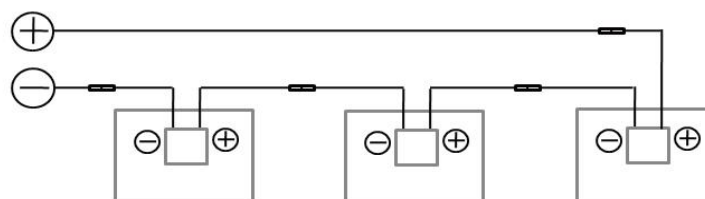
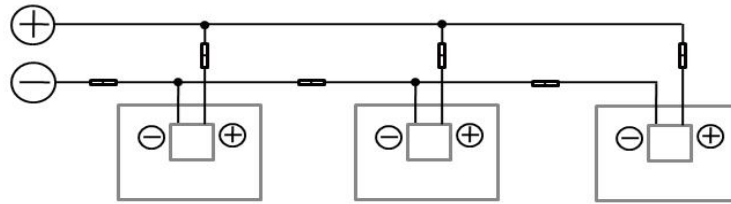
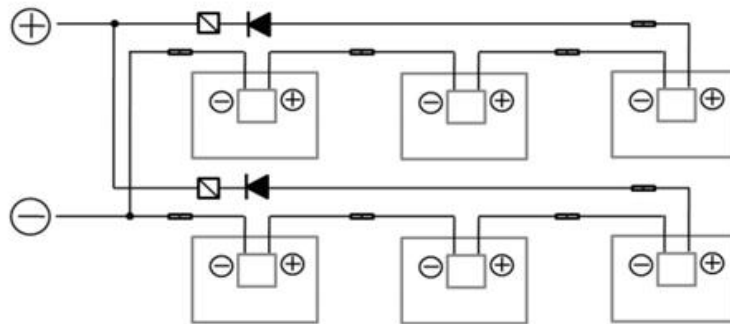

Figure 9-1 Series connection
Figure 9-2 Parallel connection
Figure 9-3 Series-parallel connection
- The direct current (DC) generated by the photovoltaic system can be converted into alternating current (AC) and connected to the public grid. Different regions may have different policies, laws and regulations to stipulate the installation requirements and grid connection requirements of photovoltaic systems. Therefore, please comply with local policies, laws and regulations during the design, installation and grid connection of photovoltaic systems.
- In order to ensure the normal operation of the system, please make sure that the polarity of the cable is correct when connecting modules or connecting loads. If the modules are not connected correctly, the bypass diode and junction box may be damaged. PV modules can be connected in series (Figure 9-1), parallel (Figure 9-2), and series-parallel (Figure 9-3). The number of modules in series and parallel should be designed reasonably according to the system configuration. At the same time, please note that if the number in parallel is  $\geq 2$  strings, there must be an overcurrent protection device on each string of modules.